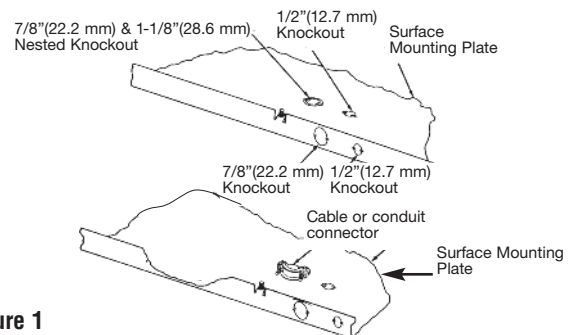

Figure 1
2. Remove the Surface Mounting Plate (Figure 1) from the carton containing the Surface Mounting Enclosure, Type SEA.
3. Remove one of the knockouts close to the ground screw and install a cable or conduit connector (Figure 1).